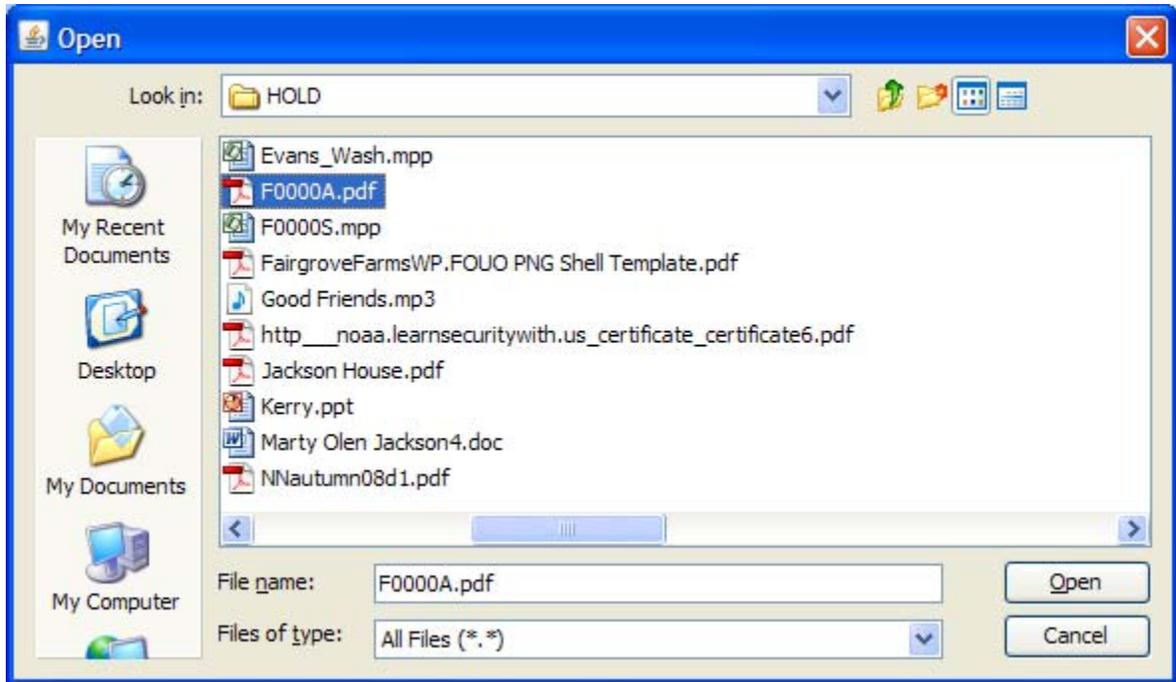

Figure 44: Open window.
- k. The **Open** window will appear (Figure 44). Locate the file to be attached and click on the **file name**. This will highlight the name of the file and enter it in the **File name** block. Click **Open**.